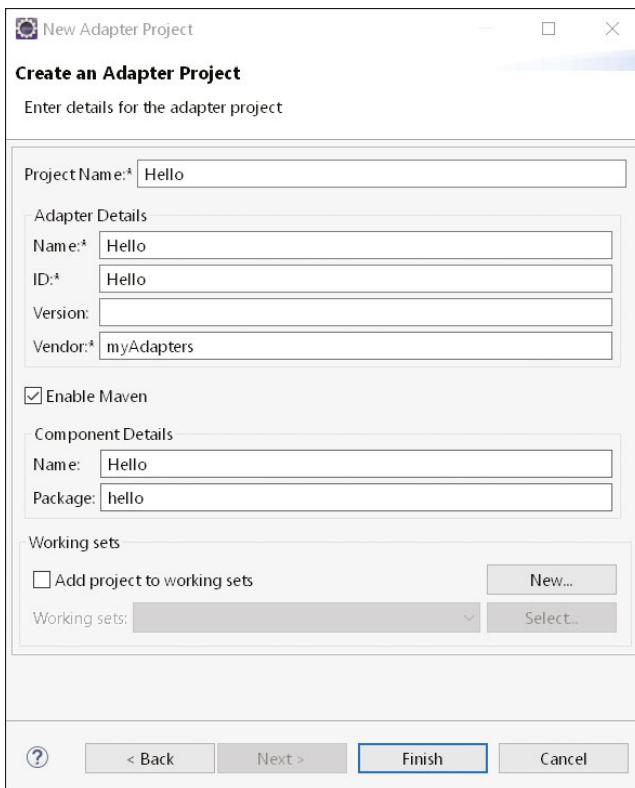

Figure 6.98 Project Details
4. Enter meaningful basic data for the project (Figure 6.98). The next screenshot shows some proposals (note that the sample adapter does nothing but send a greetings message, unless we further change it).
Also notice that the vendor specified in the project is indicated to show that this adapter is a custom adapter that isn't part of the SAP Cloud Platform Integration portfolio provided by SAP (refer to Figure 6.98).